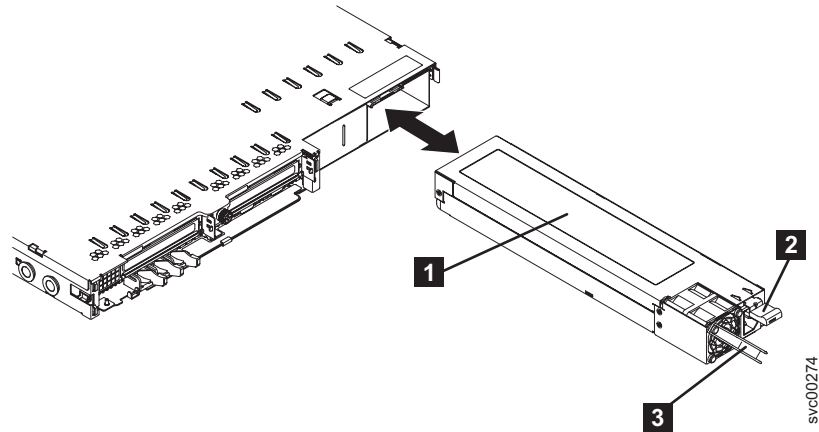

Figure 155. SAN Volume Controller 2145-8G4 power supply
3. Press and hold down the orange release tab **2**, which is shown in Figure 155 on page 171, and pull the power supply out of the node.